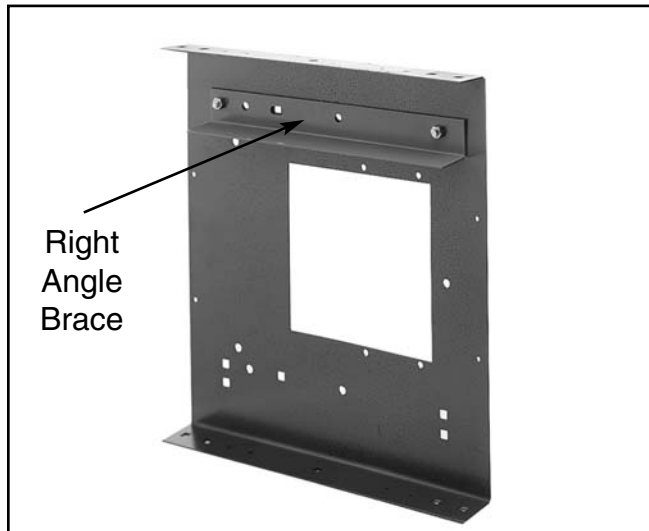

Figure 8. Attach right angle brace.
6. Attach the right angle brace to the bottom of the top panel using (2) $\frac{5}{16}$ "-18 x $\frac{1}{2}$ " carriage bolts, (2) flat washers and (2) hex nuts. Finger tighten only. **See Figure 8.**